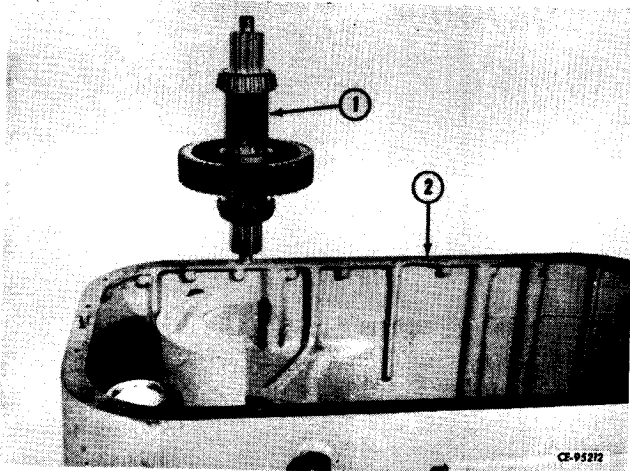

Figure 4-58
Install assembled output shaft (1, Fig. 4-58) in its bore in housing (2).